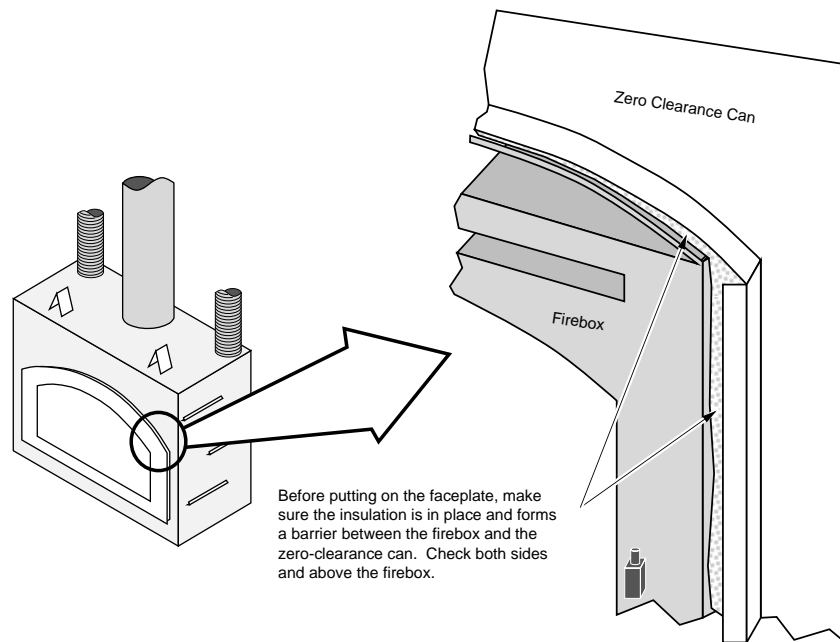

Figure 32
- Make sure the insulation between the firebox and fireplace can is still in place (see Figure 32).